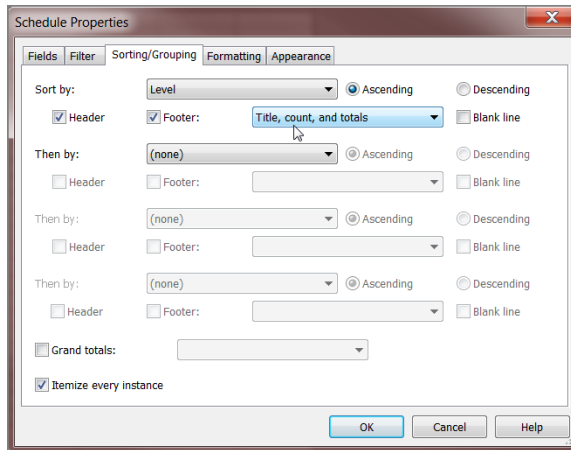

FIGURE 11.7: Sorting the schedule by level
- 9. Select Title, Count, And Totals from the Sort By drop-down list (see Figure 11.7).